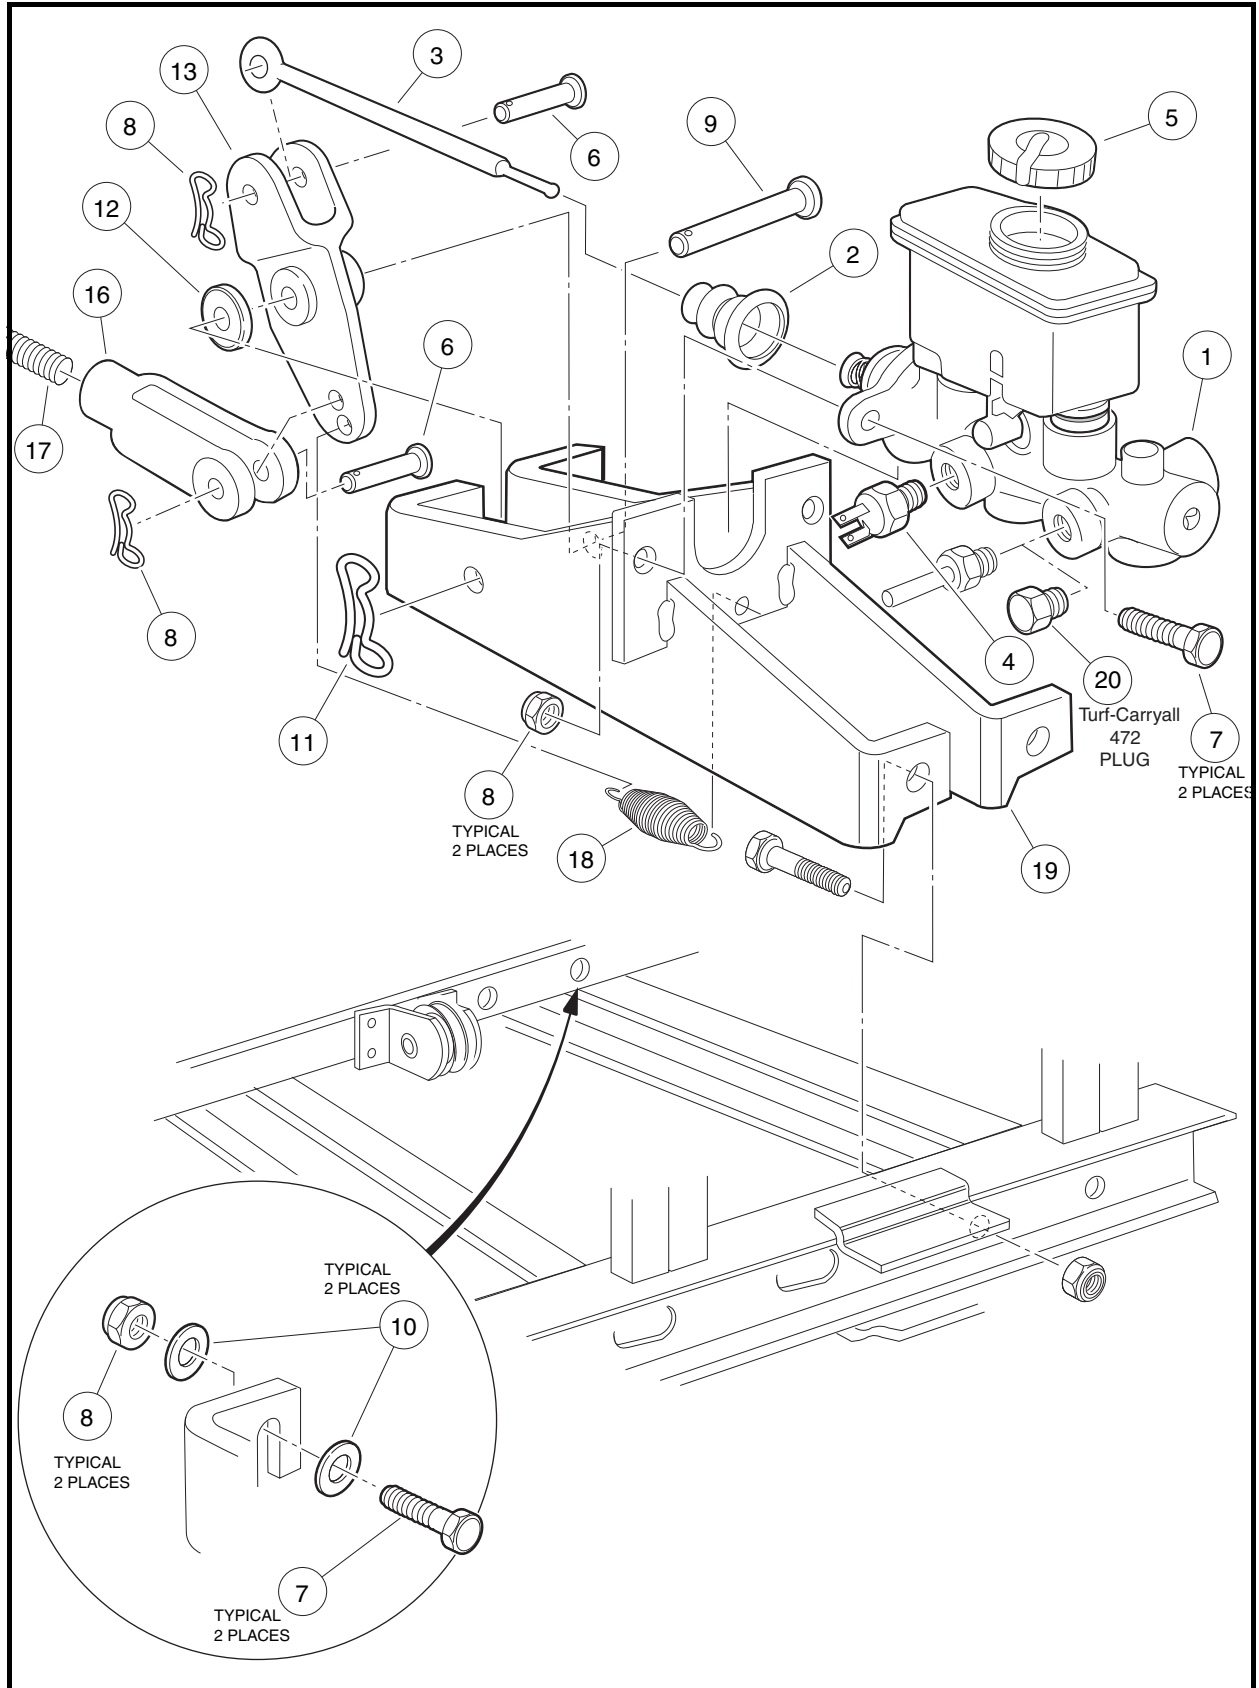

Figure 6-22 Master Cylinder
2. Remove brake rod clevis pin (6), bow tie locking pin (8) and clevis (16) from the bell crank (13) (**Figure 6-22, Page 6-30**).
3. Remove the spring (18) from the bell crank (13) and master cylinder mounting bracket (19).
4. Remove push rod (3), clevis pin (6) and bow tie locking pin (8).
5. Remove bell crank clevis pin (9) and bow tie locking pin (11) from the master cylinder mounting bracket (19) and remove bell crank (13) and centering spacer (12).
1. Install bell crank clevis pin (9) through the master cylinder bracket (19), bell crank (13), centering spacer (12) and attach bow tie locking pin (11) (**Figure 6-22, Page 6-30**).
2. Install push rod clevis pin (6) through bell crank (13) and push rod (3) and attach bow tie locking pin (8).
3. Install brake rod clevis pin (6) through clevis (16) and bell crank (13) and attach bow tie locking pin (8).
4. Install spring (18).
3. Remove the two wires from the master cylinder pressure switch (4) (**Figure 6-22, Page 6-30**).
8. Remove the two bolts (7) and nylon locknuts (8) that secure the master cylinder (1) (**Figure 6-22, Page 6-30**).
9. Remove master cylinder (1) from mounting bracket (19), push rod (3) and rubber boot (2).
1. Install master cylinder (1) into mounting bracket (19) and insert push rod (3), then seat boot (2) (**Figure 6-22, Page 6-30**).
2. Install the two bolts (7) and nylon locknuts (8) that secure the master cylinder (1) to the master cylinder mounting bracket (19) and tighten to 14 ft-lb (19 N·m).